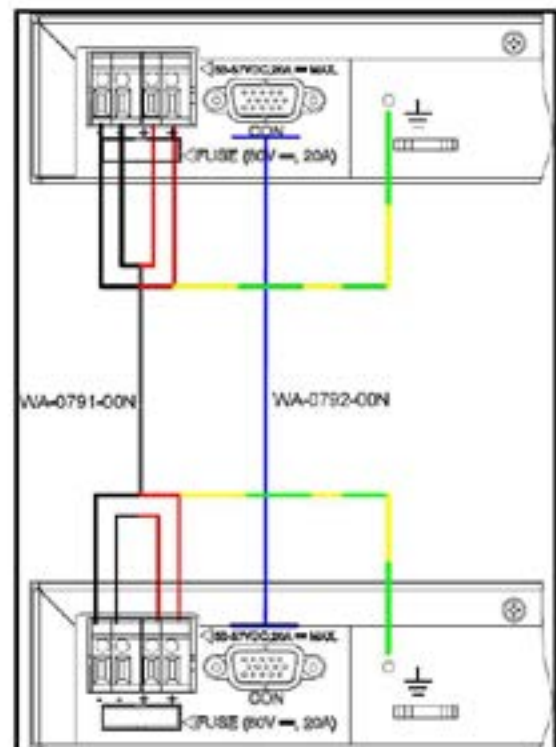

Figure 2. How to Connect the Connectors
3. Connect DC cable; two red wires (+), two black wires(-), and one yellow/green wire, as shown in Figure 2.